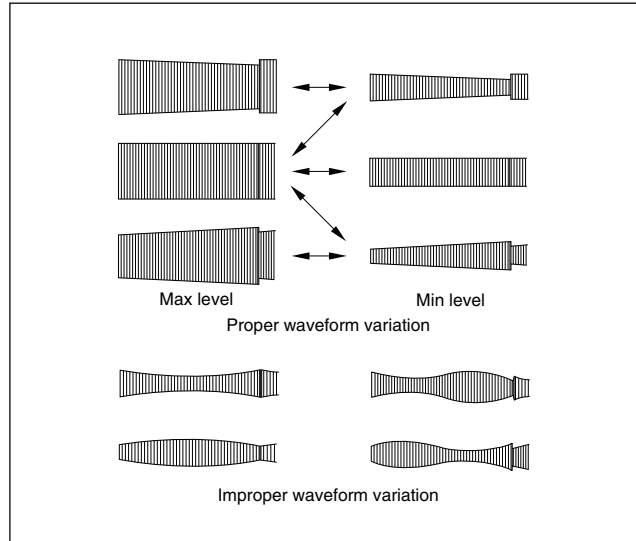

Fig. 2-3-1a
- (1) Play back the alignment tape (A1).
- (2) Apply the external trigger signal to D.F.F (E), to observe the V.PB FM waveform at the measuring point (D).
- (3) Press the channel buttons (+, -) simultaneously to enter the manual tracking mode. This also brings tracking to the center (centre).
- (4) Make sure that there is no significant level drop of the V.PB FM waveform caused by the tracking operation, with its generally parallel and linear variation ensured. Perform the following adjustments when required. (See Fig. 2-3-1a.)